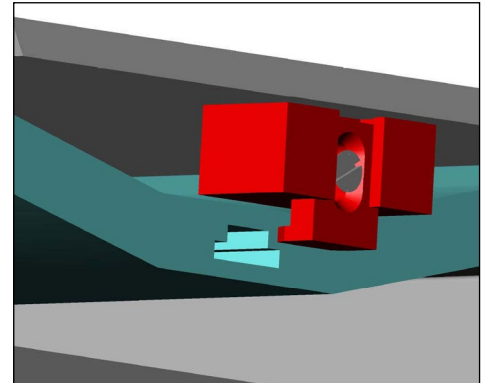

Fig. 23
2. Adjust the locking tab height by loosening the Plastic  $\frac{3}{8}$ -12 x 1.25" flat head screw, so the tab goes into the CT mating slot (Fig. 23).